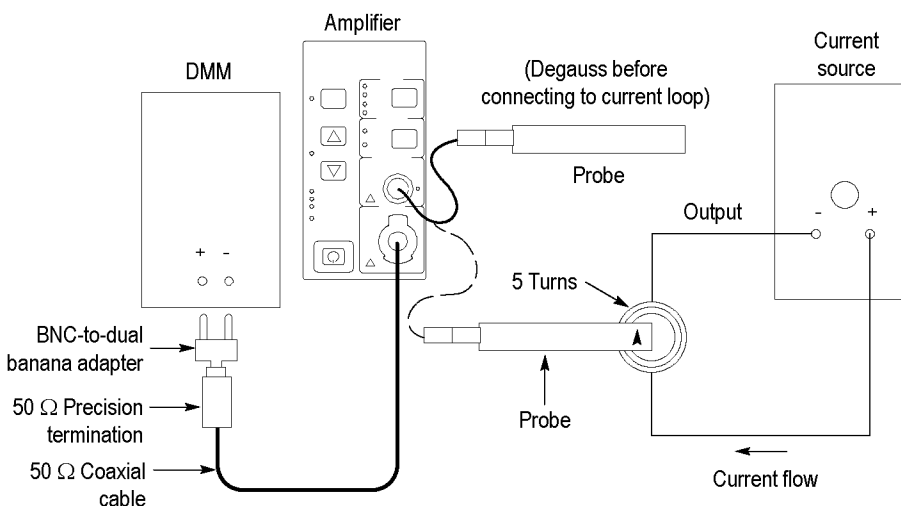

Figure 7: DC gain accuracy test setup for TCP305A and TCP312A
- Clamp the current probe around the 5 turn current loop, as shown. (See Figure 7 on page 20.)